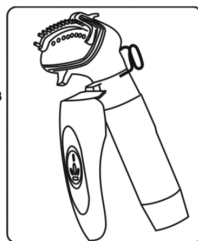

fig. 2
4. Insert the hose in the hose connector, and turn the plastic nut firmly onto hose by hand (do not use any tool). Insert the protruding parts of the hand protection plate into the slots of steam nozzle, see fig 2.